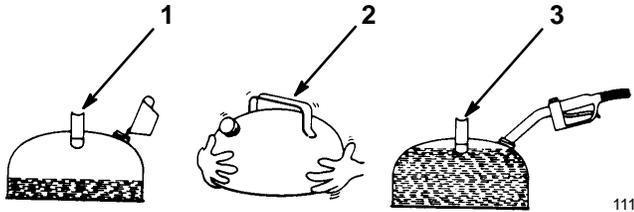

Figure 8
1. Mixing Gasoline and Oil (Fig. 8)—Pour correct amount of two-cycle oil into an approved gasoline container and add a half gallon of gasoline. Install cap on gasoline container and shake the container to mix oil and gas thoroughly. Remove cap and add remaining amount of gasoline.